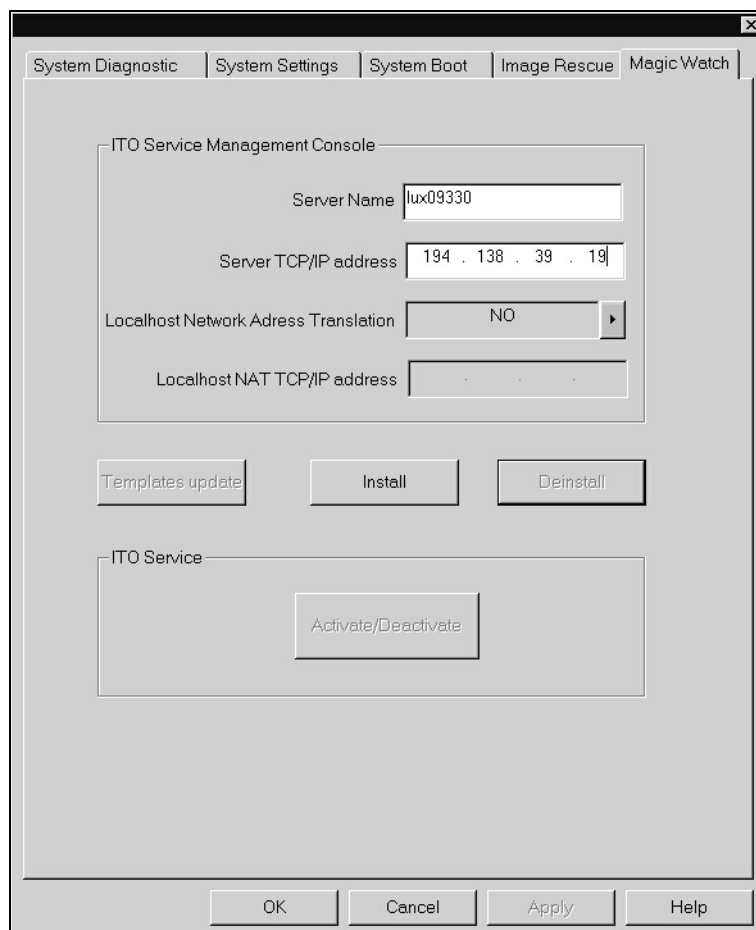

Fig. 1
- Select "System" in the service main menu and subsequently the "Magic Watch" task card (Fig. 1).
- Enter the "Server Name" and the appropriate "Server TCP/IP address" (Fig. 1) of the System Management server of your time zone (Tab. 4).